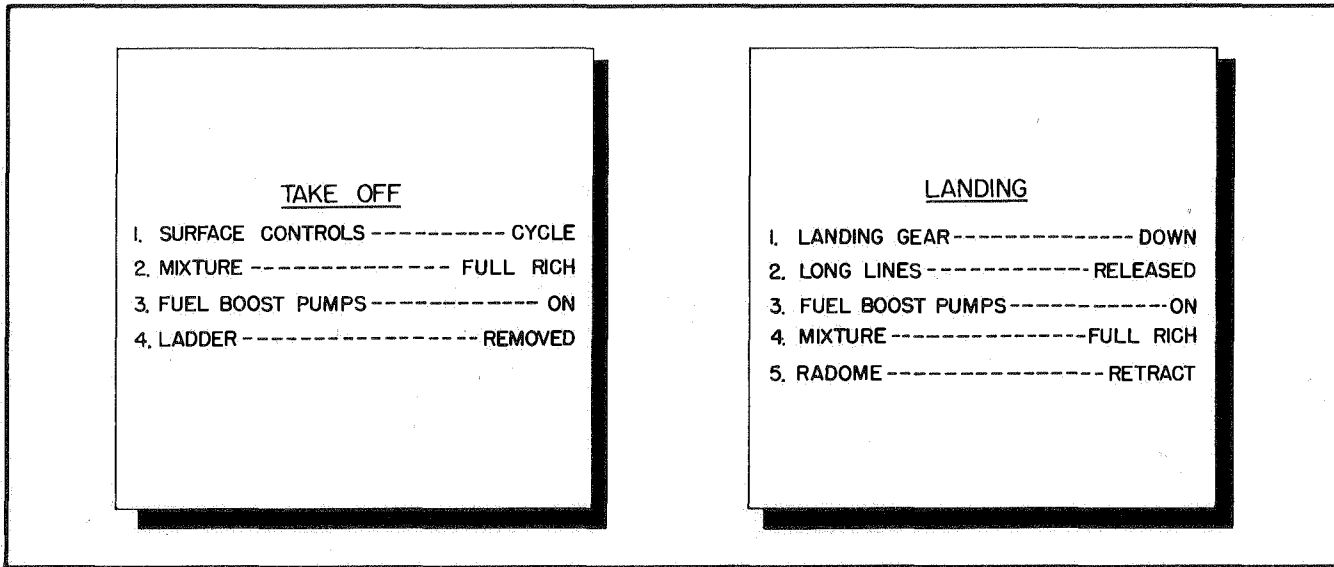

Figure 2-2. Illuminated Check Lists
**CHECK LISTS.** The pilot's take-off and landing check lists (figure 2-2) are installed on the pilot's overhead panel. Detail check lists for all phases of flight preparation and operation are presented in this section under applicable paragraph headings appearing in the sequence followed in checking.